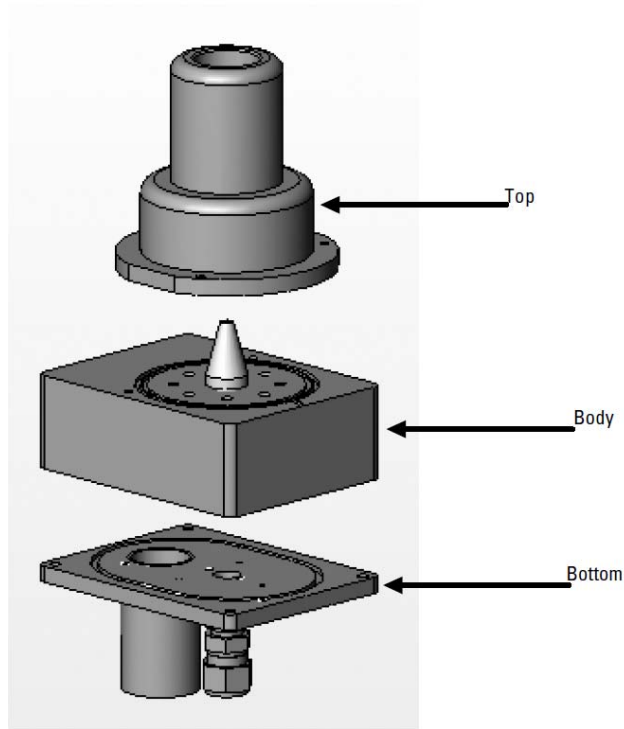

Figure 10-1. Exploded view of the virtual impactor.
4. Place the impactor on a clean work surface and remove the four screws on each corner of the bottom section of the virtual impactor. Separate the body from its base plate (**Figure 10-1**).